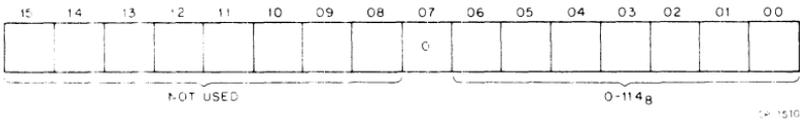

Figure 5 RXTA Format
**RX Track Address (RXTA) (Figure 5)** – This register is loaded to indicate on which of the  $114_8$  tracks a given function is to operate. It can be addressed only under the protocol of the function in progress. Bits 8 through 15 are unused and are ignored by the control.